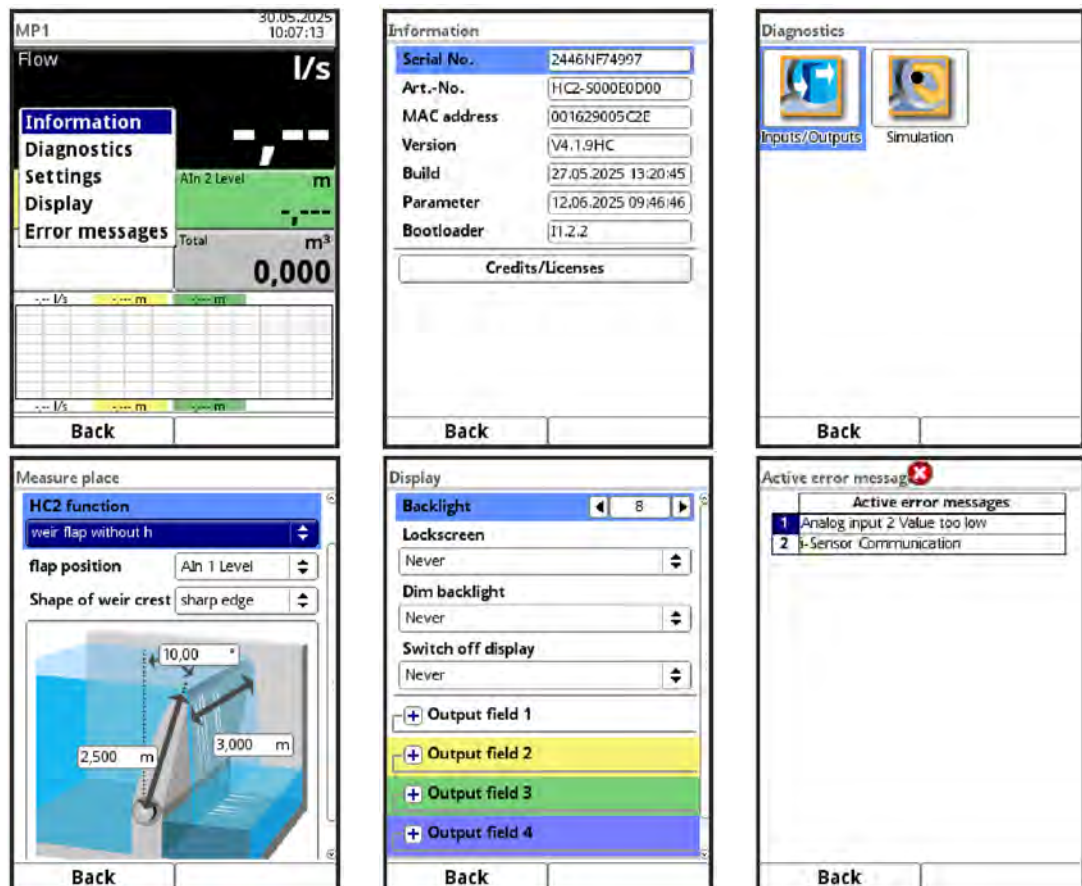

Fig. 28-1 Flow: Pop-Up-Menu and Menu Pages
- Date (alternatively 1, 2, 3 etc.; see Fig. 28-1)
- Time (alternatively 1, 2, 3 etc.; see Fig. 28-1)